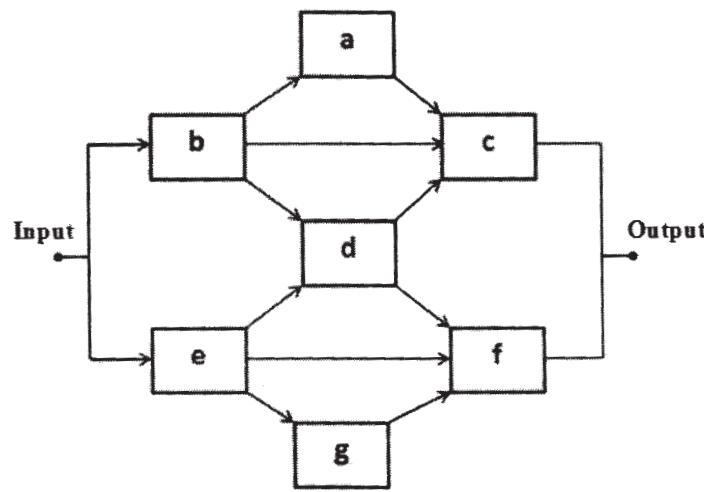

Fig. 1 Block diagram
b) For the block diagram shown in Fig.1, derive the equation using tie-set method to obtain the reliability of the system assuming the elements to be independent. Also, draw an equivalent block diagram for the minimal tie-sets and hence, find the reliability of the system if reliability of all elements is of 0.9. [6]